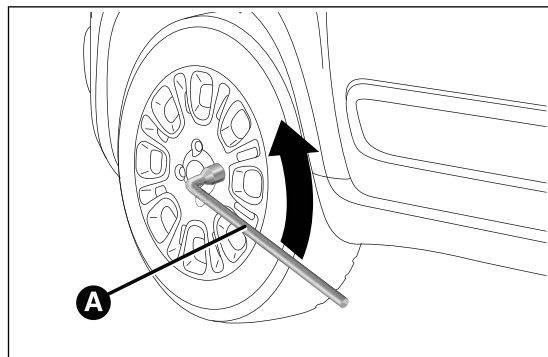

fig. 110
- ☐ take the wrench A fig. 110 and loosen the fixing bolts by about one turn;
- ☐ take the wrench A fig. 110 and fully tighten the fixing bolts;